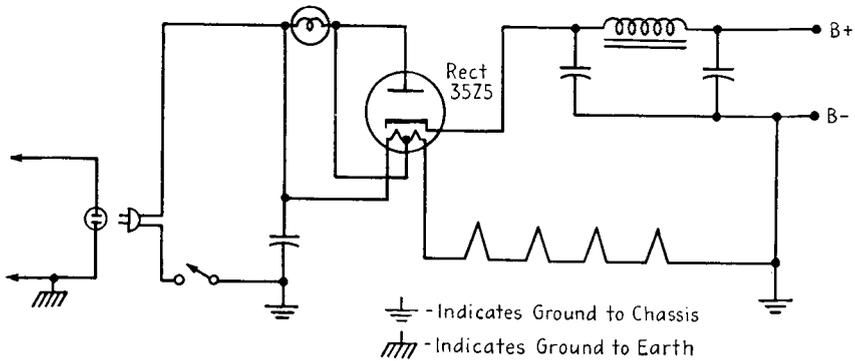

FIG. 18-8. An AC/DC power supply with *B* minus connected to chassis.
**Floating chassis circuits in AC/DC receivers.** Early AC/DC receivers connected *B* minus to the receiver chassis, as shown in Fig. 18-8. Since one side of the lighting mains is always grounded, it is desirable that *B* minus be connected to that grounded main. However, if the plug is reversed, *B* minus (and therefore the chassis) would be connected to the "hot" side of the line. Various disadvantages would result.